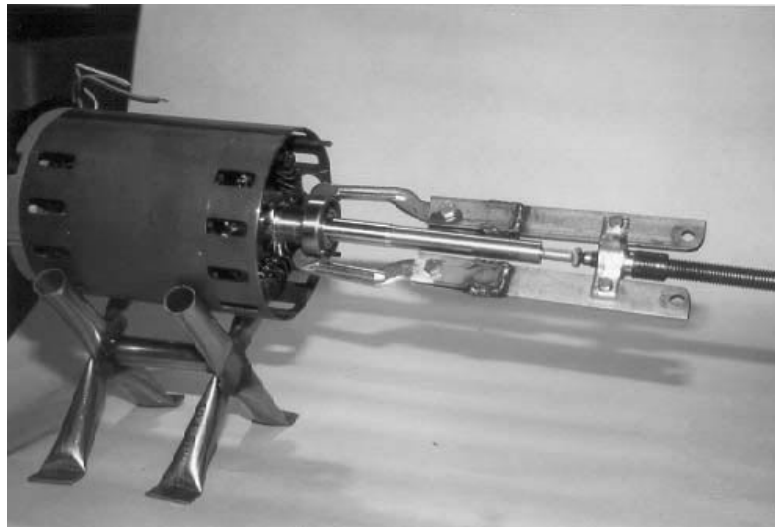

Figure X-8 LM motor bearing removal.
NOTE: Using extreme caution, it will be necessary to use a gear puller such as the one in figure X-8.
3. Using a bearing puller, remove damaged bearings. (Fig X-8)